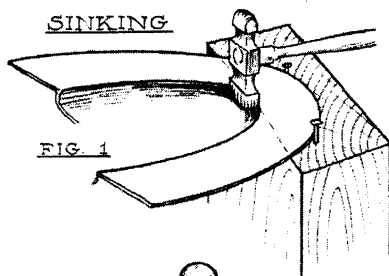

FIG. 1
4. Use an oval sinking hammer; strike lightly just inside the sinking line, rotating slowly (Fig. 1).